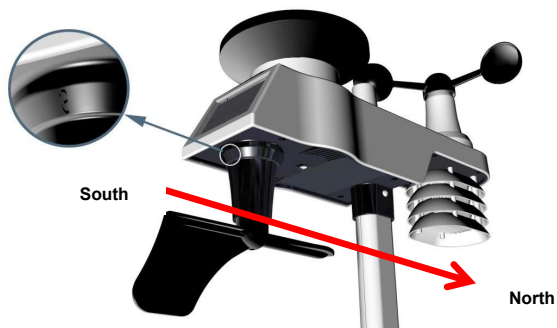

Figure 11
Step 1: There is a “S” indicator on the wind vane that indicates South, as shown in Figure 11. Check the wind directions with compass and Align this “S” marker in the direction of South.